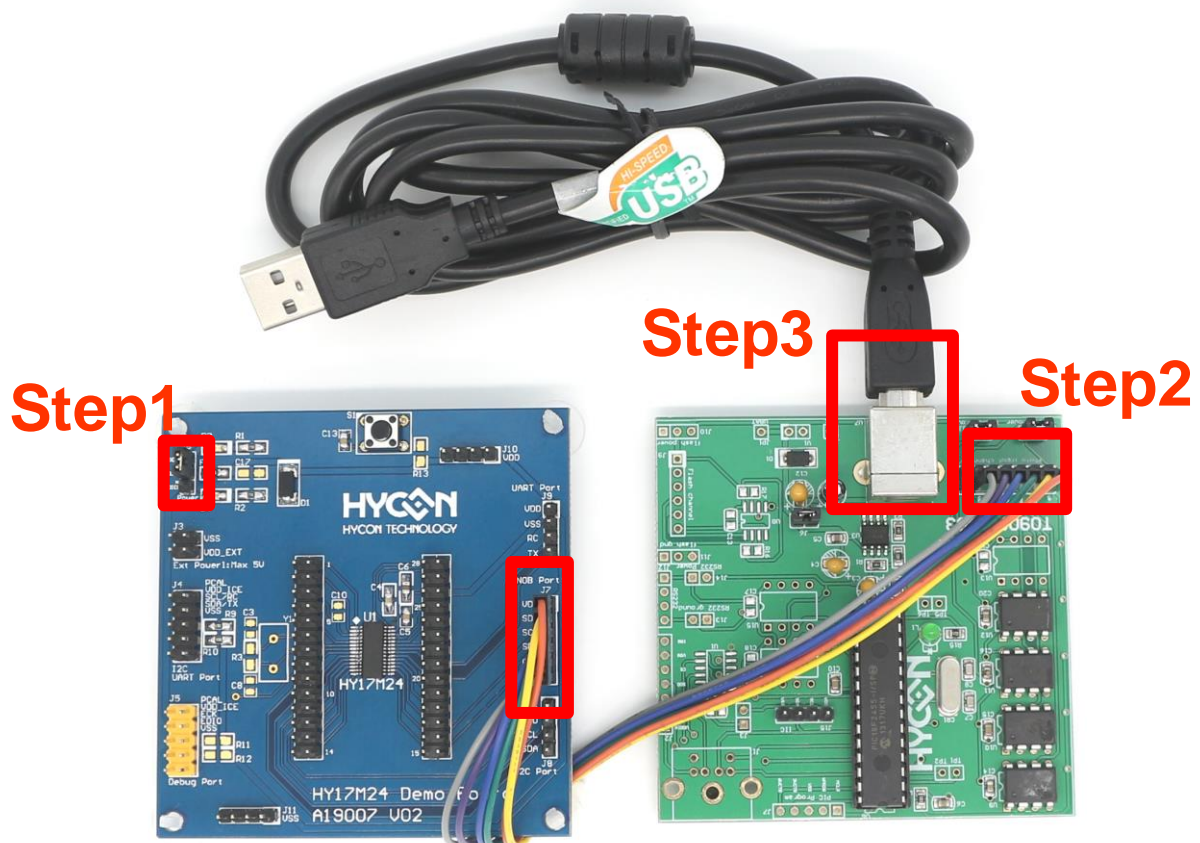

Figure 4-6
Step5: After Step 1~3 (as shown in Figure 4-6), the hardware connection is completed.